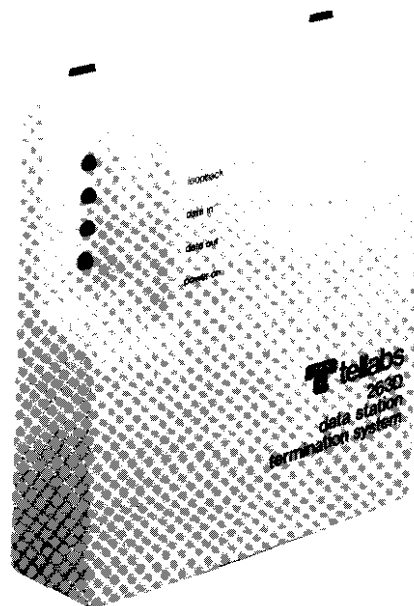

figure 1. 263DA DST System
1.01 The Tellabs 263DA and 263DB Data Station Termination (DST) Systems (figure 1) each interface a 4wire data set with a 4wire transmission facility. Both systems are compact, self-contained units that provide data interface and power rectification/regulation circuitry in an attractive enclosure that can be wall mounted or placed on a desktop. The difference between the two units is that the 263DB can be powered directly from a commercial 117Vac, 60Hz outlet, while the 263DA requires an external source of nominal 26Vac such as that supplied by the Tellabs 8015 Transformer. Each unit is available in three versions; the 263DA-1, -2, and -3 and the 263DB-1, -2, and -3. All three versions of each unit feature prescription gain and attenuation in the receive channel, prescription attenuation in the transmit channel, and tone- or switch-activated loopback. While the 263DA-1 and the 263DB-1 provide no amplitude equalization, the 263DA-2 and the 263DB-2 each contain a prescription slope-type equalizer in the receive channel, and the 263DA-3 and 263DB-3 each contain a receive-channel equalizer functionally equivalent to the Western Electric 309B Prescription Equalizer. All six versions can be supplied with an optional 20mA sealing current subassembly and with optional gas-tube lightning protectors. Table 1 summarizes the distinguishing features of the various 263DA and 263DB units.